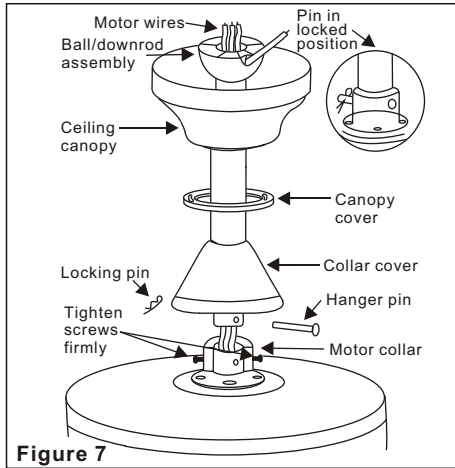

Figure 7
Step 6. Route wires exiting from the top of the fan motor through the collar cover, canopy cover, canopy and then through the ball / downrod. (Fig. 7)
the motor housing (Fig. 7). Carefully insert the hanger pin through the holes in the collar and downrod. Be careful not to jam the pin against the wiring inside the downrod. Insert the locking pin through the hole near the end of the hanger pin until it snaps into its locked position, as noted in the circle inset of Fig. 7.
Step 8. Tighten two set screws on top of the fan motor firmly (Figure 7)